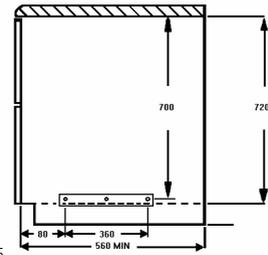
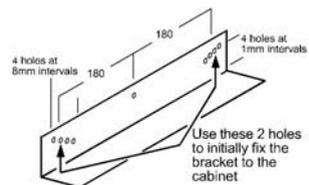

Fig. 5
Fig. 7
- Make sure the space between the cabinets is the correct size for the appliance to be fitted (Ref. Fig. 5 & 6).
- Drill two pilot screw holes into the sides of the adjacent cabinets, in the positions indicated by Fig. 5
- Fit the appliance mounting brackets using the two holes indicated in Fig. 7 to the adjacent cabinets (Ref. Fig. 5 & 6).